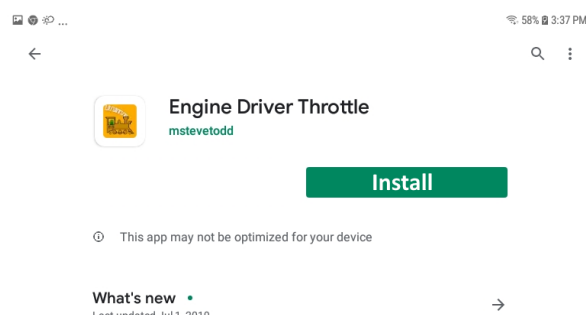

Figure 13 The Engine Driver Throttle detail page in the play store
- d. Tap the Install button (Figure 13). The app downloads and install on your device. Do not open the app until after the next steps.